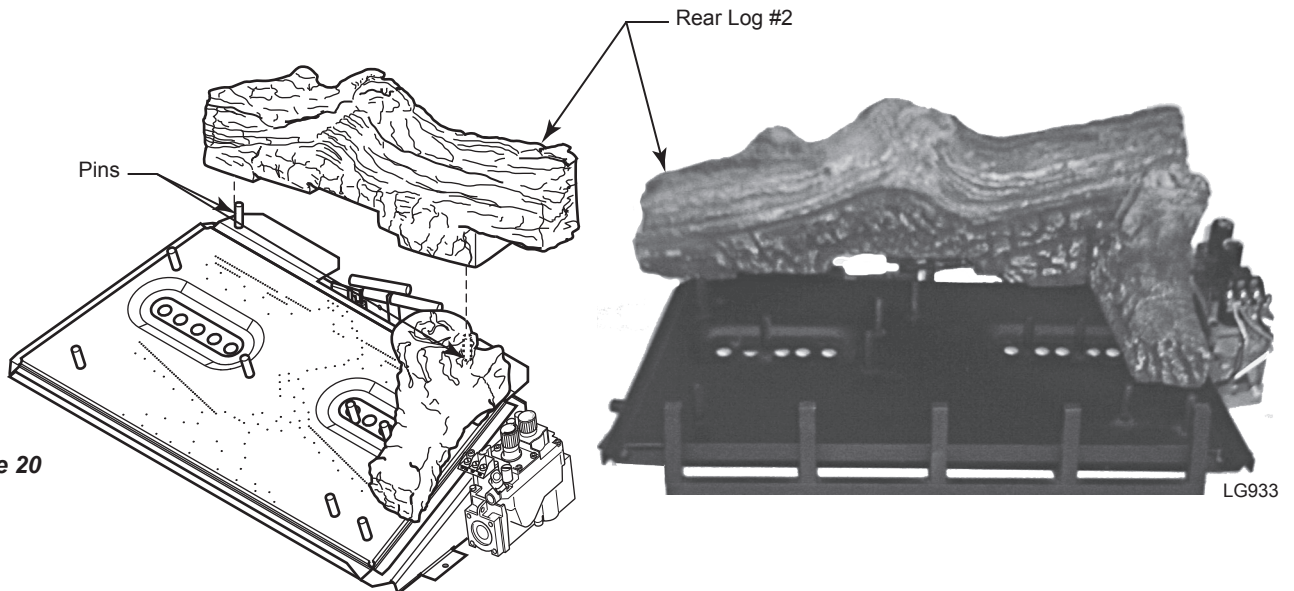

Figure 20
2. Place rear log (#2) on two pins on back of grate allowing the right end of the rear log to rest on top of the right top log. *Figure 20*